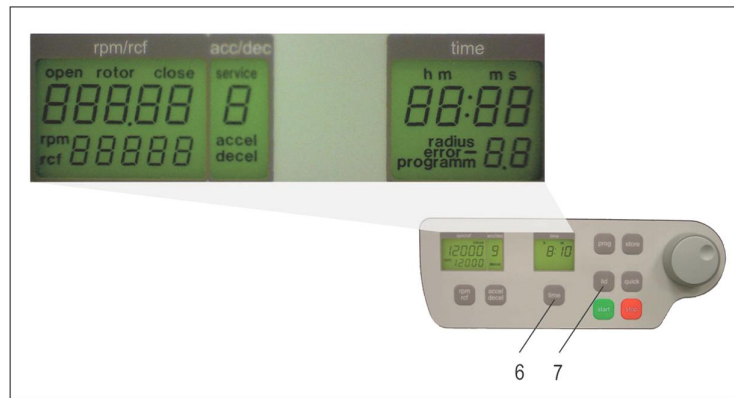

Figure 2
If the centrifuge is still turned off, press simultaneously the keys „time“ (6) and „lid“ (7) and turn on the main switch of the centrifuge. Now release both keys again. As a result a display test is executed for approx. 5 seconds. All possible indications will appear at the same time (see Figure 2).